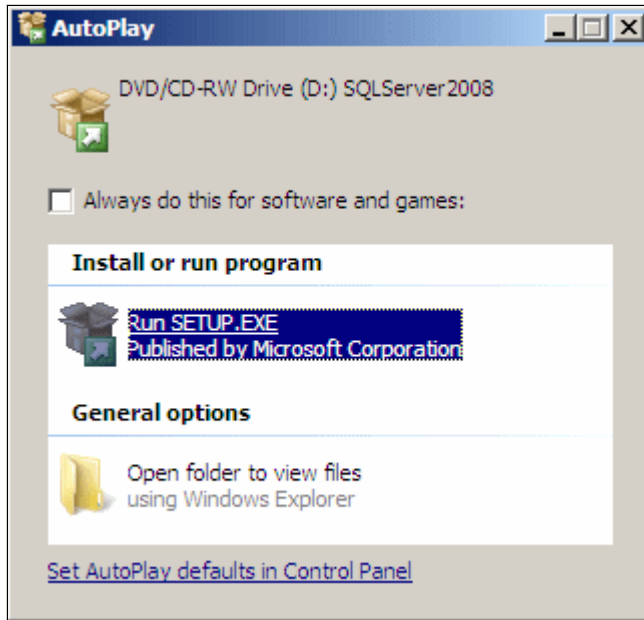

Figure 6-13 SQL run setup.exe
- The SQL Server 2008 DVD has an installation wizard to guide you through the install process. Assign the DVD drive in the media to this blade server and insert the SQL Server 2008 Standard 64xbit DVD. The AutoPlay panel (Figure 6-13) displays. Click the Setup.exe file.